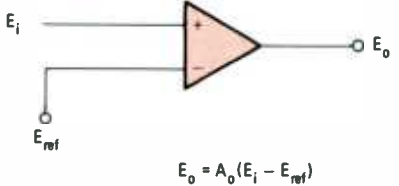

Fig. 14—A very basic op-amp comparator circuit.
30. (squarewave) One of the most useful op-amp circuits is the comparator shown in Fig. 14. When connected as a comparator the op-amp is used open loop, that is, without feedback. The comparator does what its name implies: it compares two input signals. One signal, called the reference (Eref), is applied to the - input. It is often a fixed DC voltage. The signal which is compared to the reference Ei is applied to the + input. The op-amp is used in its differential configura-
32. (equal to) As shown in Fig. 14, the  $E_i$  and  $E_{ref}$  can be reversed. With such a configuration the comparator inverts. If  $E_i > E_{ref}$ , the output will be -15 volts. If  $E_i < E_{ref}$ , the output will be +15 volts.